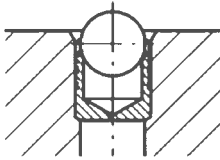

Fig. 1
- / With the ball facing out the KOENIG EXPANDER[®] is inserted in the counterbored hole. The top sleeve should not be above the surface of the base material (Fig. 1).